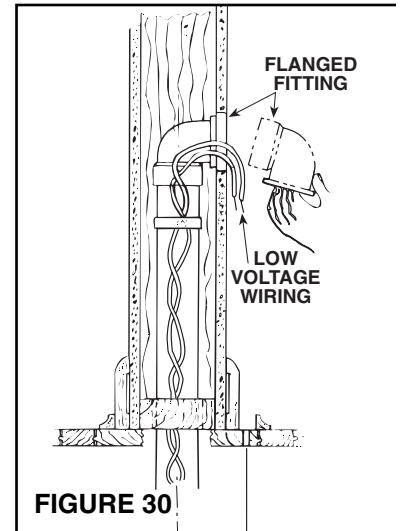

FIGURE 30
7. Apply cement to tube and install flanged wall fitting. Make sure fitting is well seated and sealed (Figure 30).